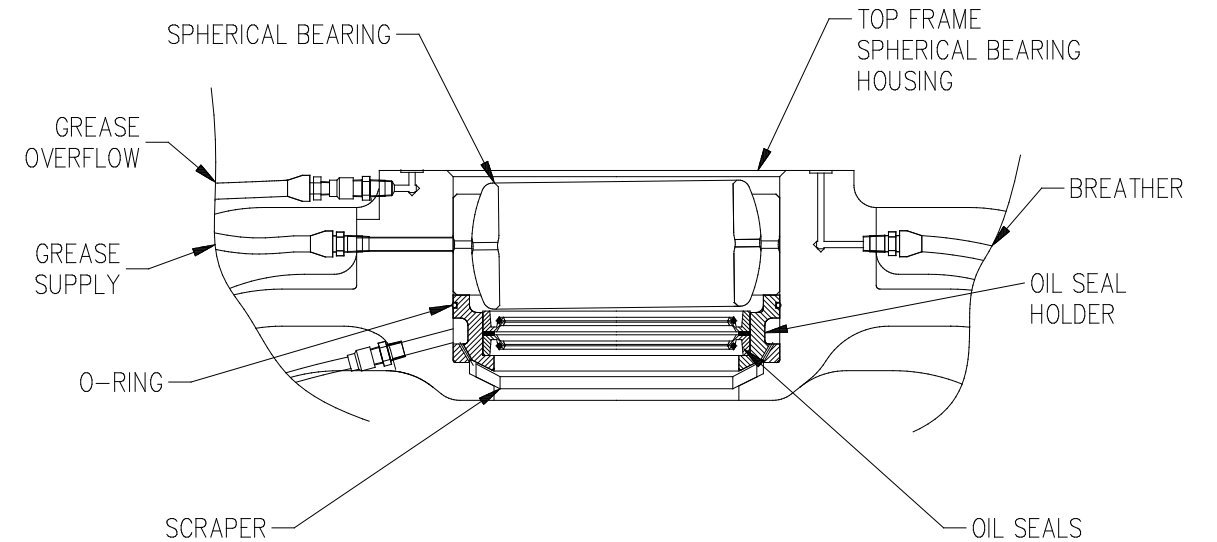

Fig. 6.4.1
3. Remove the top frame cap and cap cover to expose the spherical bearing. (Fig. 6.4.1) Clean all grease and dirt out of spherical bearing housing with safety solvent or equivalent.